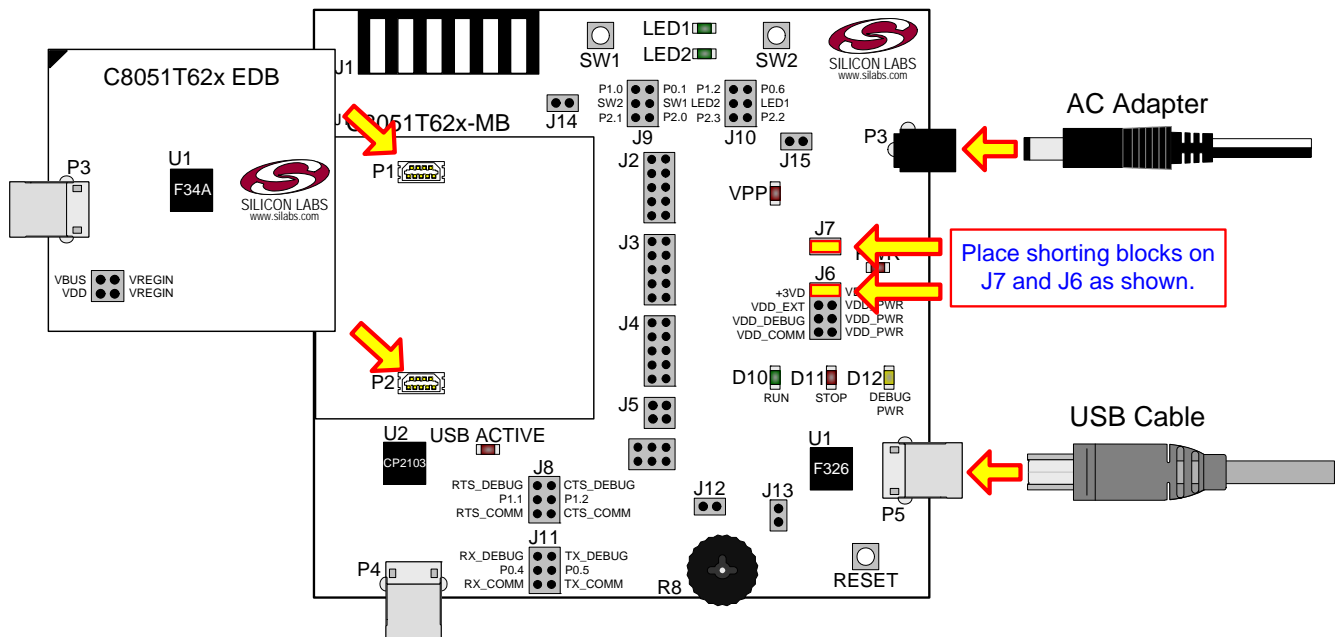

Figure 1. Hardware Setup (Emulation Daughter Board)
See Figure 1 for a diagram of the hardware configuration.
3. Place shorting blocks on J7 and the +3VD-VDD_PWR jumper pair on J6, as shown in Figure 1.